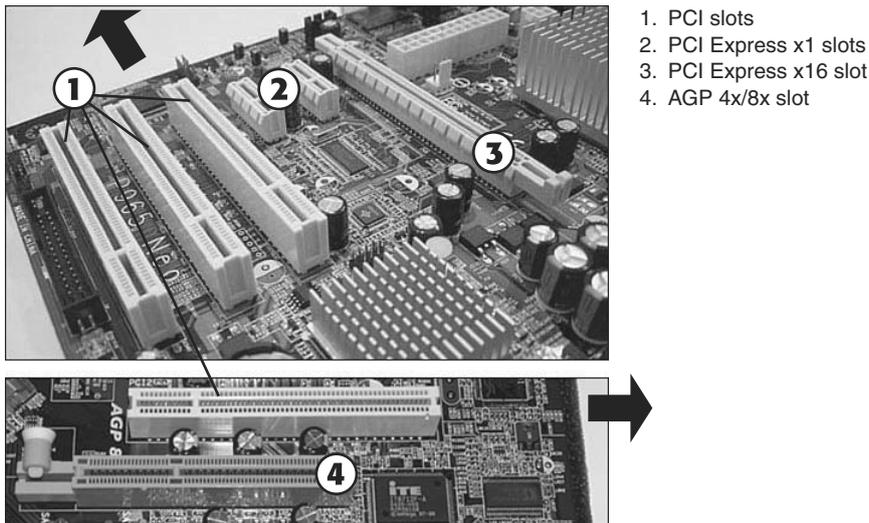

Figure 3-30 AGP, PCI, PCI Express x1 and x16 slots on typical motherboards. Arrow indicates rear of motherboard.
- **What type(s) of expansion slots are available for expansion cards?—**A typical system today might have two or three different types of expansion slots, such as PCI Express x16, PCI Express x1 and PCI, or PCI and AGP, as shown in Figure 3-30. PCI Express x1 and PCI slots can be used for a variety of adapter cards, while PCI Express and AGP slots are designed for display adapters. The adapter card you select must fit into an available slot.